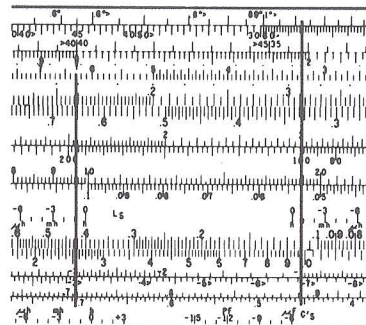

Figure 10d
a. Assume that the low frequency cut-off is desired when $C_c = 0.022 \mu f$ and $R_g = 470 K\Omega$. Set the hairline to 0.47 on X_c (use dot) and move the slide until 0.22 on C scale is under the hairline. Move the hairline to the arrow and read 1.54 on F. Notice that θ is 45° , $db = -3$, and $\cos \theta$ (Relative gain) = 0.707. To find the decimal point, $0.022 \mu f = 0.22 \times 10^{-7} f$ and $470 K\Omega = 0.47 \times 10^5 \Omega$. Set -7 on C' to +6 on X_c' and at the bridge read +1. The low cut-off will then be 1.54×10 or 15.4 cycles. This setting is shown in Fig. 10d.